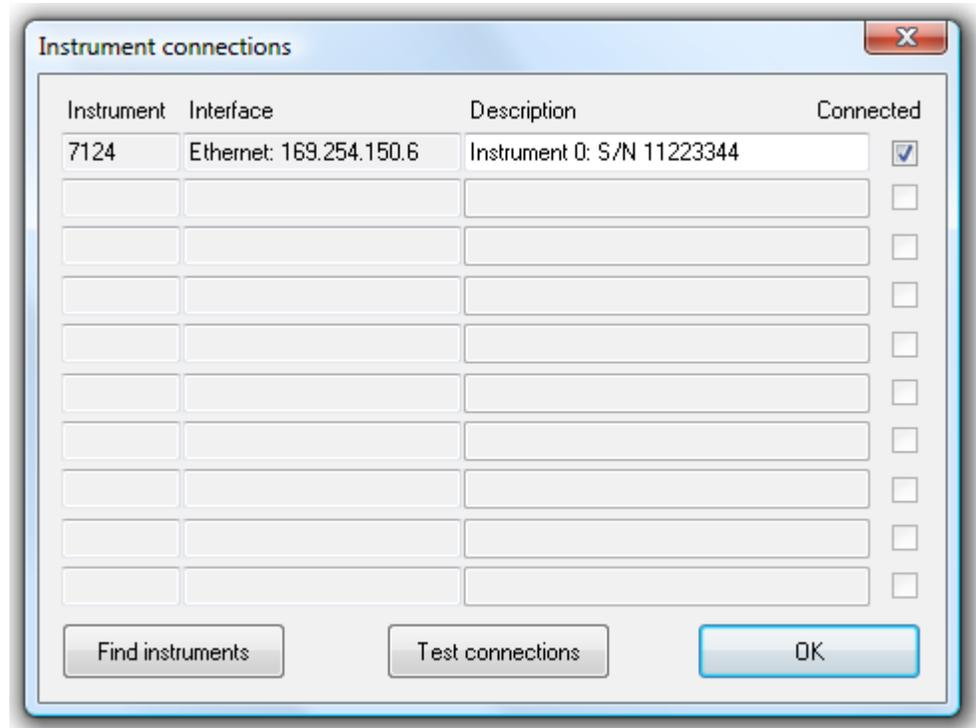

Figure 3-2, Instrument Connections Dialog Box - One Instrument Available
- 3) The user should then click **Find Instruments** and **OK** to proceed at the warning "This action will overwrite all instrument descriptions". This runs the **ScanForInstruments** function, which starts a search of the GPIB, USB, serial ports and Ethernet for any compatible instruments and on completion updates the dialog box. For example, with a model 7124 found the updated dialog box might appear as in figure 3-2 below.